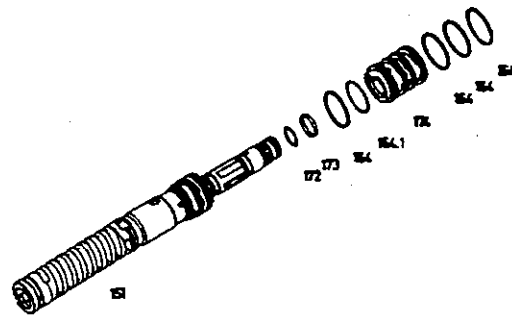

Fig.25
Slip O-ring (164.1) and sealing rings (164) onto control sleeve (174) with tool [11] (Fig.25).